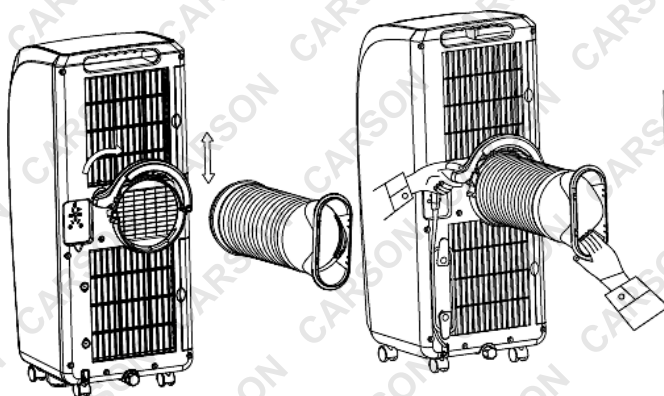

Figure 5
1. Hold the end handle of the C-shape buckle of the heat exhaust hose with the left hand and the heat exhaust hose short connector with the right hand, put one end of the heat exhaust hose that is pulled apart onto the snap joint of the lower air duct bottom, press the C-shape buckle of the heat exhaust hose with the left hand forcefully so that the C-shape buckle of the heat exhaust hose clips the snap joint of the back shell (as shown in Figure 5).
NOTE: The round connector must be put on the step inside the bottom of the lower air duct (as shown in Figure 5). • The C-shape buckle that clips the heat exhaust hose assembly must clip the back shell and the round connector firmly.